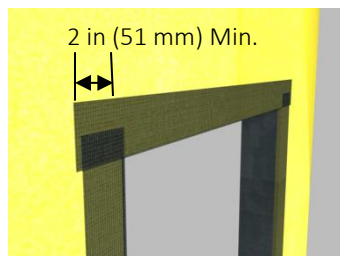

Figure 4
- 5) Install the AquaFlash System at the head overlapping the jamb pieces a minimum of 2 in (51 mm) – Figure 4